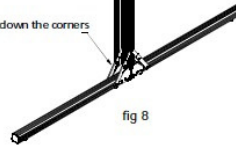

fig 8
2. Unfold the leg following the directions given below. Lock down all four corner braces (as fig 8).